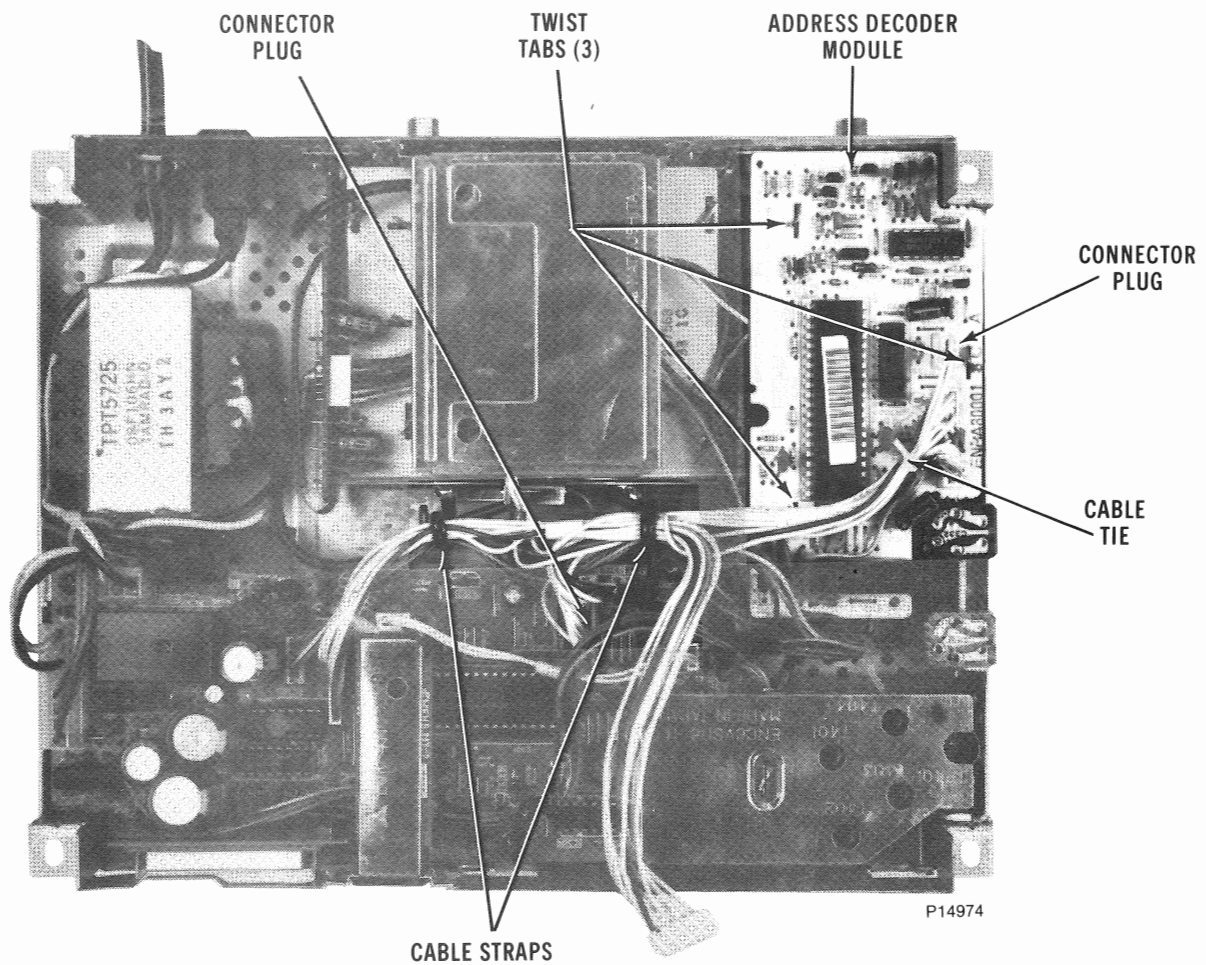

Figure 5-4. Address Decoder Removal
5.3.2.4 Address Decoder Removal (figure 5-4).